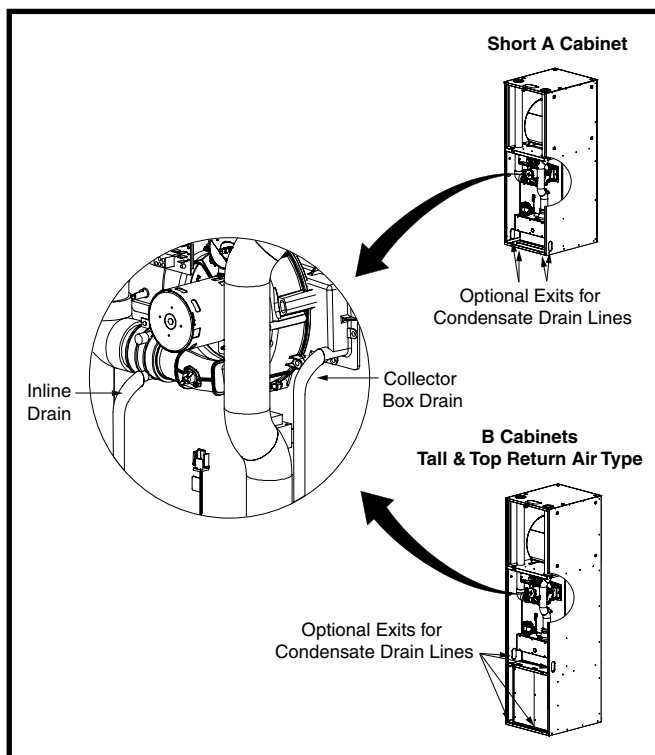

Figure 16. Condensate Drainage
The condensate drain may exit through the left or right slots in the bottom of the furnace (Figure 16). Make sure the flexible drain hose is not kinked.
1. Remove the collector box soft tube (Figure 16) and verify the exit from the collector box is clear of any debris or obstructions.